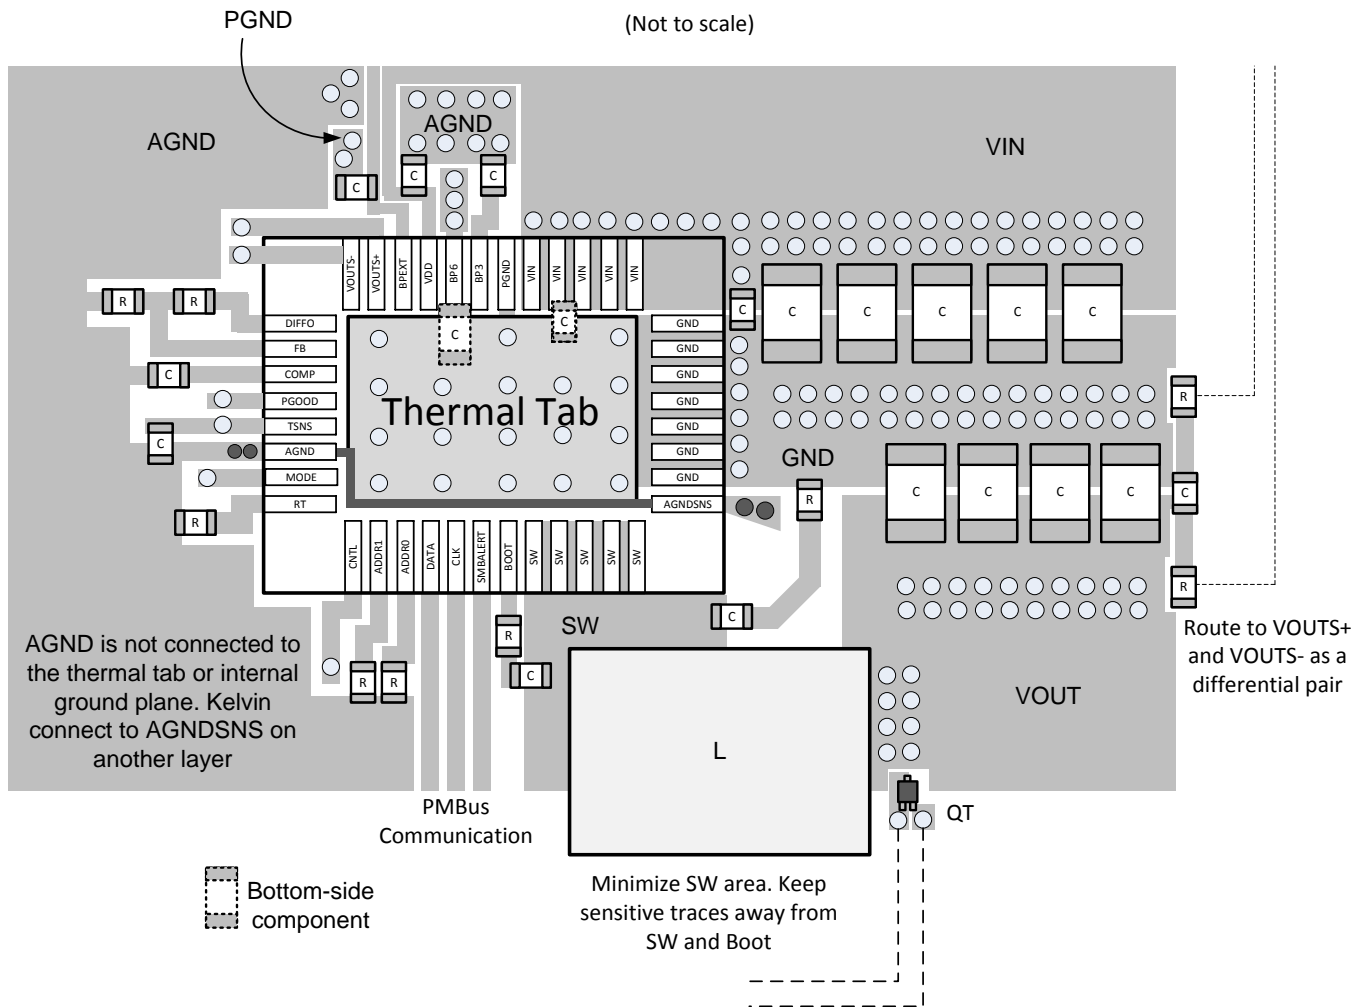

Figure 45. PCB Layout Recommendation
This design does not include an auxiliary 5-V supply, so BPEXT is terminated to PGND. According to the recommendations in , BP3 is bypassed to AGND with 100 nF of capacitance, and BP6 is bypassed to PGND with 4.7- μF of capacitance. In order for the regulator to function properly, it is important that these capacitors be located close to the TPS544C20, with low-impedance return paths to AGND or GND as appropriate. See Figure 45 for more information.
Layout is a critical portion of good power supply design. The following layout recommendations will help guide you through a good layout of the TPS544B20 and TPS544C20 Devices. Figure 45 shows the recommended PCB layout configuration for additional reference.
- The VIN and VDD pins must be the same voltage for accurate short circuit protection, but high frequency switching noise on the VDD pin can degrade performance. VDD should be connected to VIN through a trace from the input copper area. Optionally form a small low-pass R-C between VIN and VDD, with the VDD bypass capacitor (4.7 μ F) and a 0-2 Ω resistor between VIN and VDD. See Figure 45.